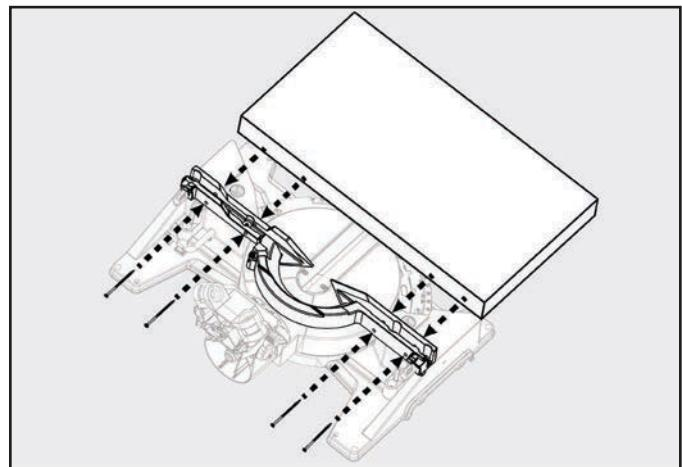

Figure 27
2. Flip the support tabs (C & D) into position. Tabs (D) are on both the left and right sides of the lower (fixed) fence. Tab (C) only exists on the right side of the lower(fixed) fence. These will function as your workpiece backstop. See Figure 27.
3. You will need to add an auxiliary table board to (E) support your large capacity workpiece (F). Place the 2" x 12" auxiliary table board (E) onto the saw table and against the lower (fixed) section of the saw fence. Make sure the board is securely positioned against the lower (fixed) fence.
NOTE: Use wood screws to secure the auxillary table board (D) to the lower (fixed) fence. See Figure 27.